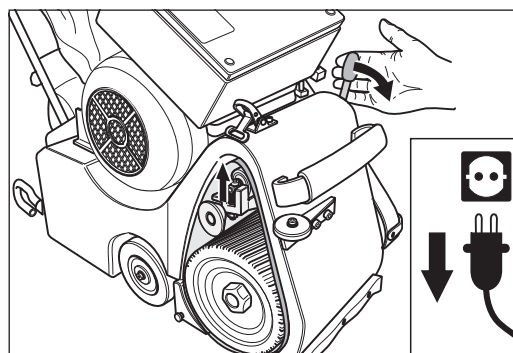

Fig. 32 Tension the sanding belt by lowering the operating lever. Otherwise, damage or injury can occur!
- 8 To tension the sanding belt, press the operating lever of the drive unit downwards (Fig. 32). **Otherwise, damage or injury can occur!**
- **Always tension the sanding belt before switch on the machine (Fig. 32)!**